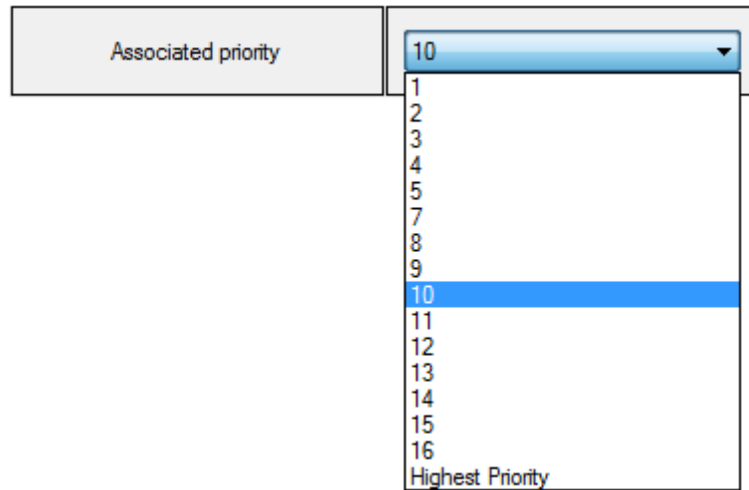

Figure 35: List of available priorities to transmit to the group after an input change of state.
- This priority, set from the list of *Figure 35*, is only associated with the input shown in the selection box and not to all inputs (if there are many) linked to control the group:
- **Highest Priority:** in addition to the usual 16 priority levels, a 17th priority is available in the list shown on *Figure 35*. It forces the group state to follow the one set at the input, no matter what is the current *effective priority* for the group.
- The priority, set from the list of *Figure 35*, is only associated with the schedule shown in the selection box and not to all schedules (if there are many) linked to control the group: